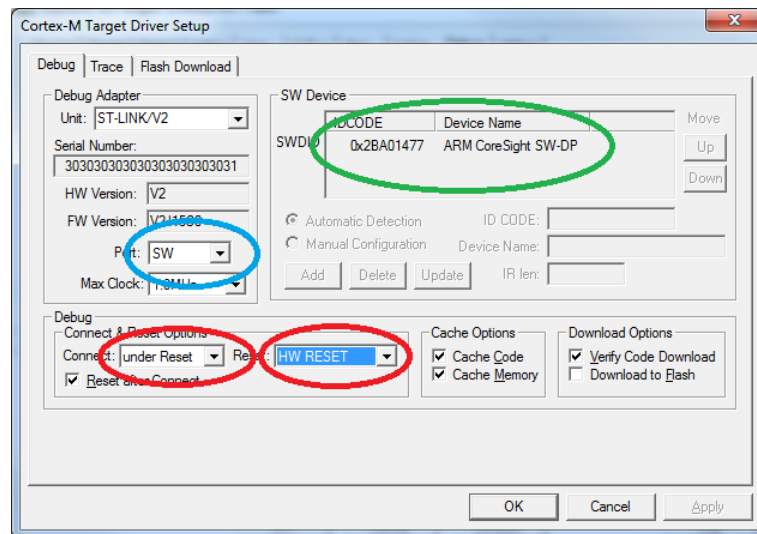

Figure 8c Debugger Settings Window
- In the **Debug Adaptor** section set the Port to SW communications protocol (Figure 8c circled in Blue).
- Set the **Connect & Reset** Options so they match that shown in Figure 8c circled in Red.
- If this is done correctly the board ID should be displayed in the **SW Device** section as shown in Figure 8c circled in Green.